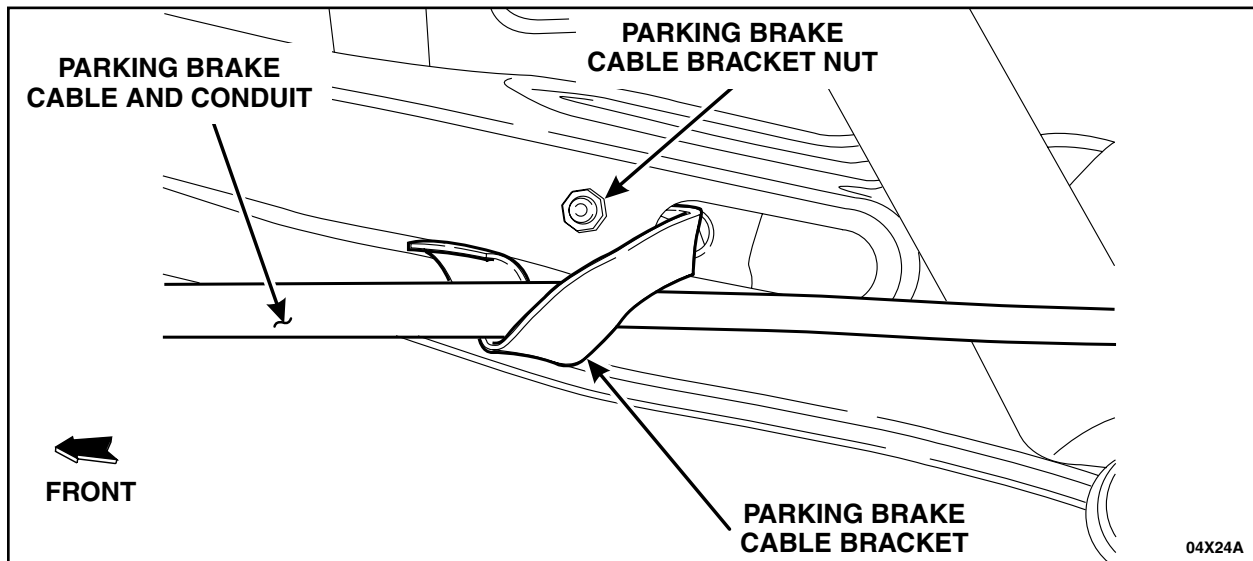

FIGURE 5
2. Remove the parking brake cable bracket nuts and position the parking brake cable brackets aside. See Figure 5.
See Figure 5.